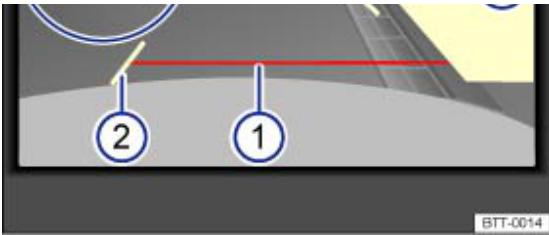

Fig. 163 On the screen: orientation lines and surfaces for the parking space behind the vehicle
Meaning of the orientation lines and surfaces on the screen → Fig. 163. All distances of the orientation lines refer to a vehicle on a horizontal surface.
- Reverse slowly and guide the vehicle so that the yellow surface area shown on the screen stops before a potential obstacle → Fig. 163 ⑤, e.g. another vehicle.
- Once the yellow line → Fig. 163 ③ touches the side limit of the parking space, e.g. marking or kerb (close-up), turn the steering wheel fully in the opposite direction.